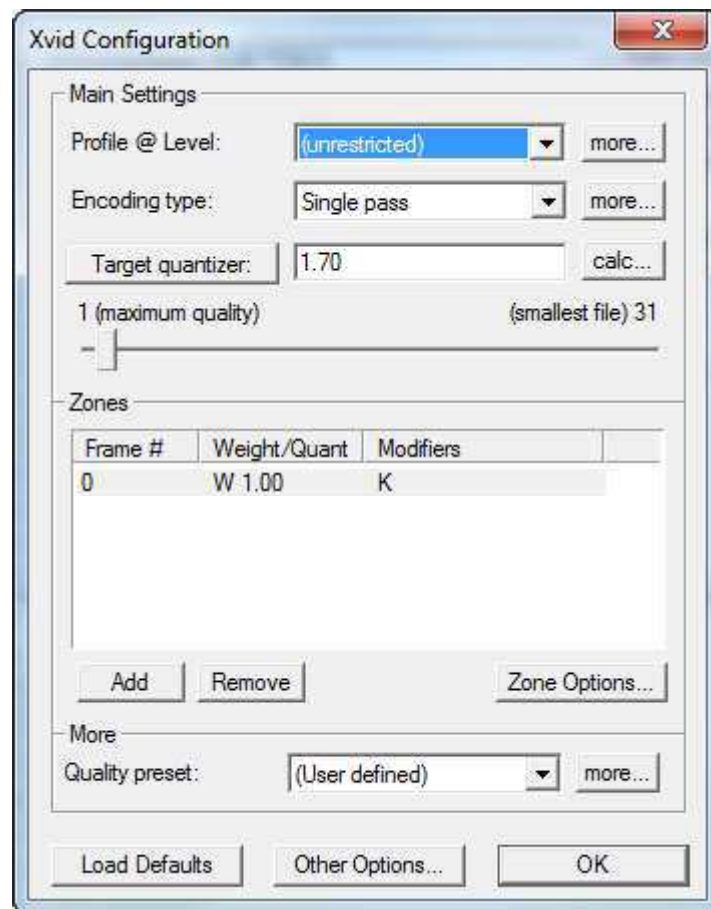

Figure 17.46: Configuration of compressing settings
- Set the "Target Quantizer" to *1.70* (cf. Fig. 17.46) and confirm with *Ok*